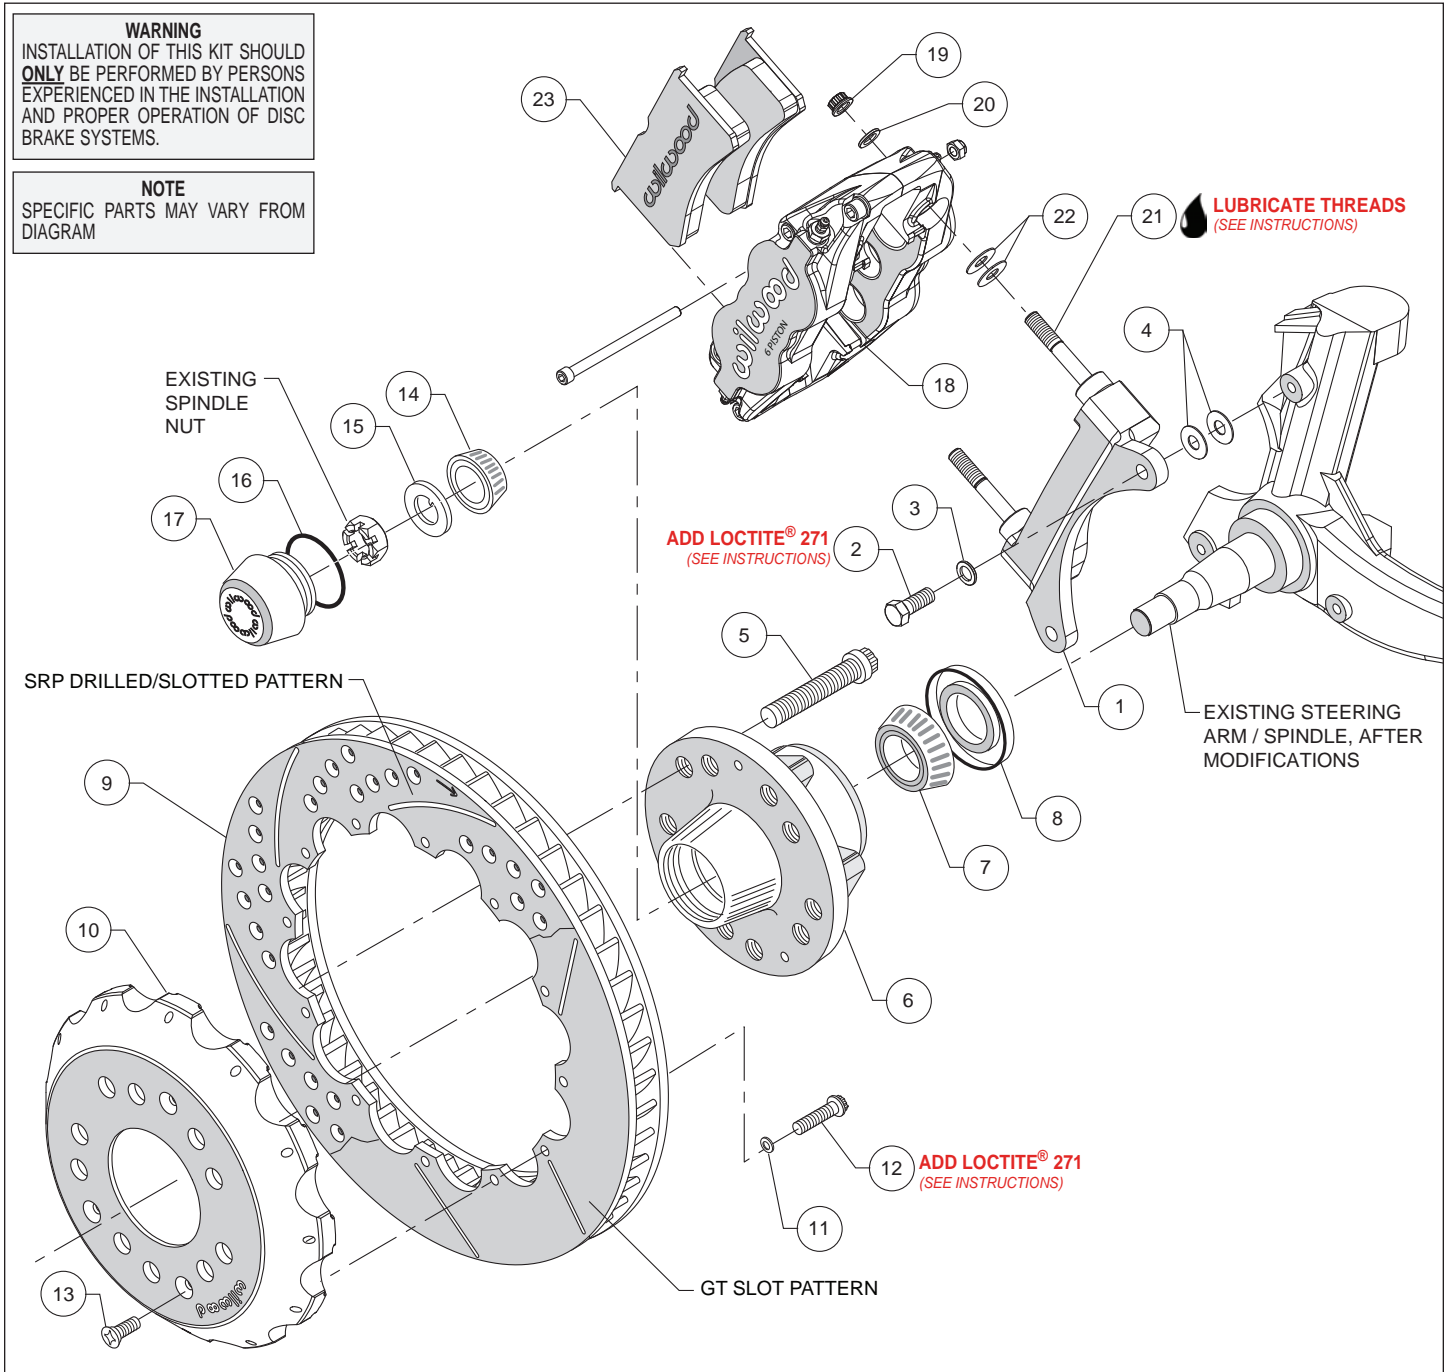
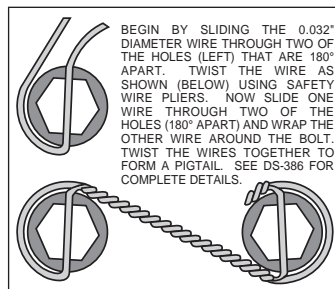

Figure 2. Typical Installation Configuration
Figure 4. Safety Wire Diagram
Assembly Instructions (numbers in parenthesis refer to the parts list and Figure 2 on the preceding pages):
- The caliper mount bracket (1) should initially be installed with clean, dry threads on the mounting bolts. Orient the bracket as shown in Figure 2 and Photo 1, and install using bolts (2) and washers (3). Initially place two .035" thick shims (4) on each bolt between the bracket and upright, Figure 2. Temporarily tighten the mounting bolts. **NOTE:** The bracket must fit squarely against the mounting points on the spindle. Inspect for interference from casting irregularities, machining ridges, burrs, etc. Later, after the caliper alignment has been checked, the mount bolts will be secured using red *Loctite*® 271.
- Orient the rotor (9) and the hat (10) as shown in Figure 2 and Photo 4. Attach rotor to hat using bolts (12) and washers (11). Using an alternating sequence, apply red *Loctite*® 271 to the threads, and torque to 155 in-lbs. For an added measure of security, the bolts may be safety wired using standard 0.032 inch diameter stainless steel safety wire as shown in Figure 4. Refer to Wilwood's data sheet DS-386 (available at www.wilwood.com/Pdf/DataSheets/ds386.pdf) for complete safety wire installation instructions.
- **NOTE:** *This kit contains distinct right and left hand calipers that must be mounted in a specific direction, as described below.* Lubricate the caliper mounting studs (21) with lightweight oil. Initially place two .035" thick shims (22) on each stud between the caliper and the bracket, as shown in Figure 2 and Photo 7. Mount the caliper (18) onto the bracket (1) using lock nuts (19) and washers (20), Figure 2. Ensure that the caliper is mounted so the largest pistons are at the rotor exit end of the caliper, in relation to the direction of rotor rotation. Temporarily tighten the lock nuts and view the rotor through the top opening of the caliper. The rotor should be centered in the caliper, Photo 8. If not, adjust by adding or subtracting shims (4) between the bracket and the spindle. Always use the same amount of shims on each of the two mounting bolts. Once the caliper alignment is correct, remove the bracket mounting bolts one at a time, apply red *Loctite*® 271 to the threads, and torque to 40 ft-lb.